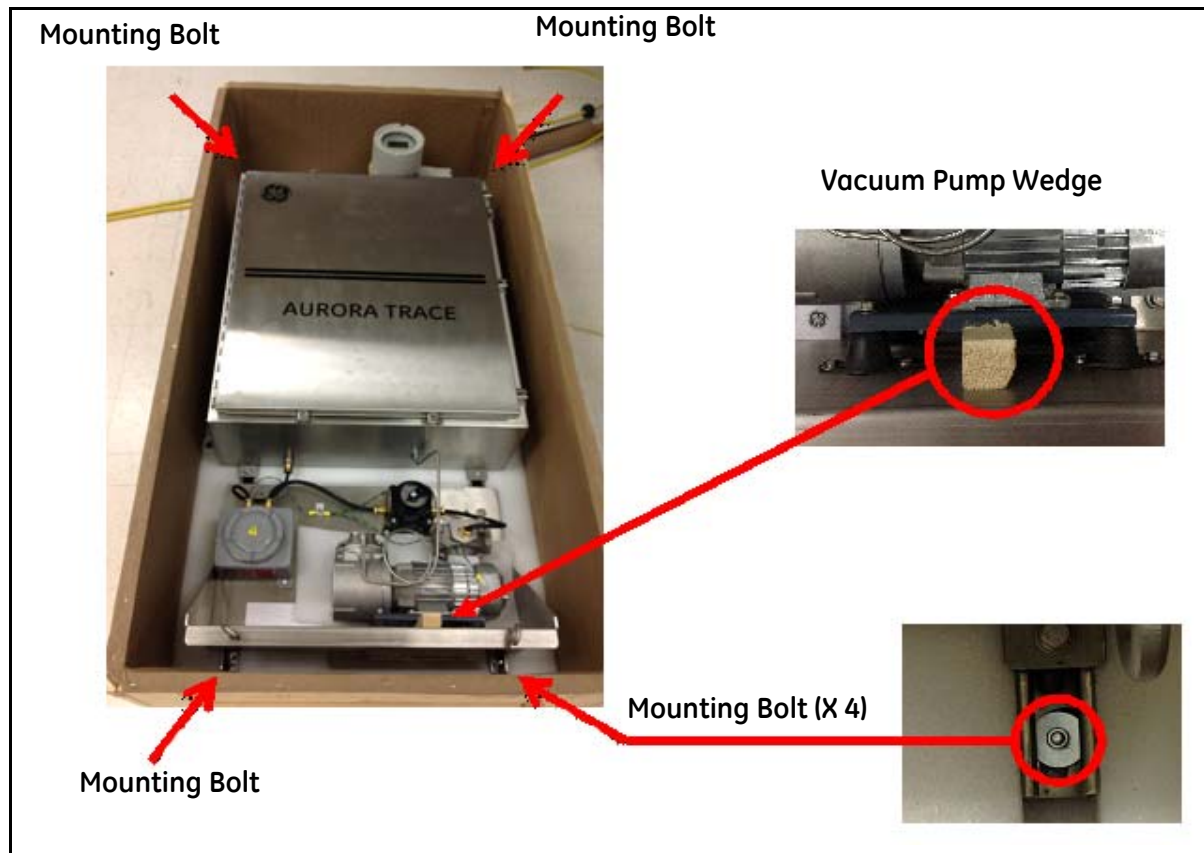

Figure 2: Aurora Trace Mounted on Base with Crate Cover Removed
1. Remove the four mounting bolts at both ends of the mounting rails (see Figure 2 on page 8).
2. Remove the vacuum pump wedge, which is used to restrict pump movement during transportation (see Figure 2 on page 8).